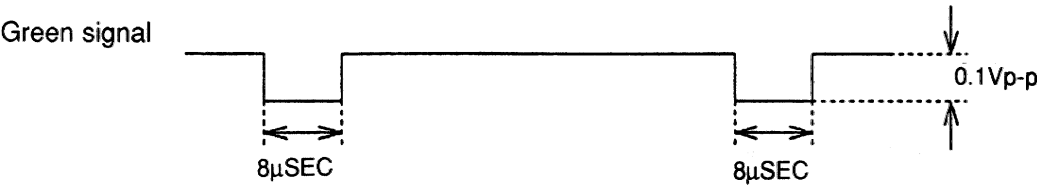

Figure 3-2-1 Green Signal Blanking Waveform
- (1) Disconnect external signals.
- (2) Connect a probe to the emitter of Q715.
- (3) Turn VR812 fully counterclockwise to increase the brightness all the way.
- (4) Adjust VR705 until the green waveform is $8+0/-1$ [usec] as shown in Figure 3-2-1.
- (5) Also adjust VR812 until the setup level is $0.1+0.02/-0$ [Vp-p] as shown in Figure 3-2-1.